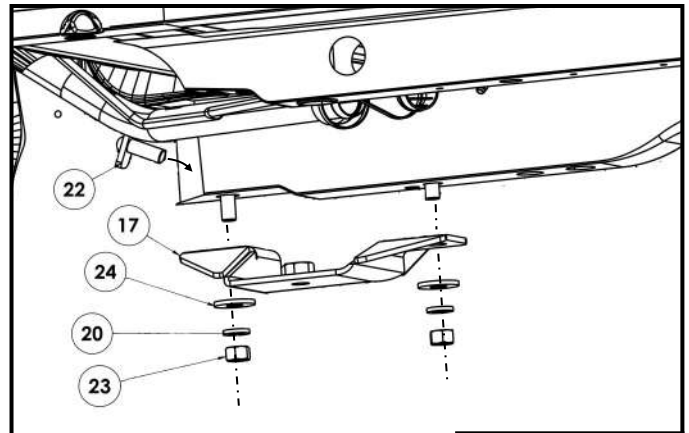

Figure 4
6. Once bolt plates are through the specified holes locate the top isolator bracket (item 17). Loosely install the bracket with supplied M12 hardware. **See Figure 4**